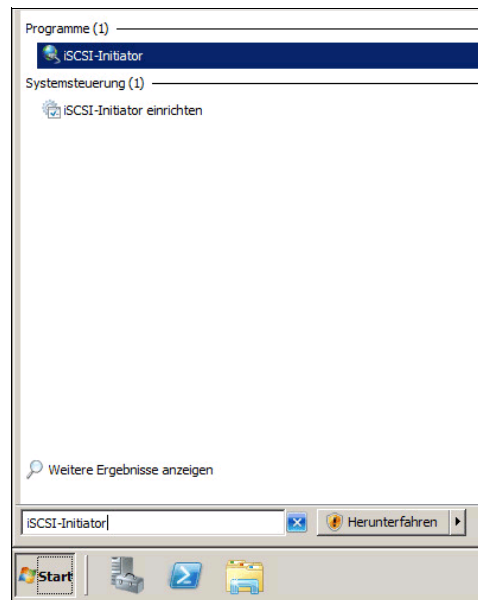

Figure 5-9 Windows 2008 R2 iSCSI Initiator
1. Enter `iscsi` in the search field of the Windows 2008 R2 Start window (Figure 5-9) and click **iSCSI Initiator**.